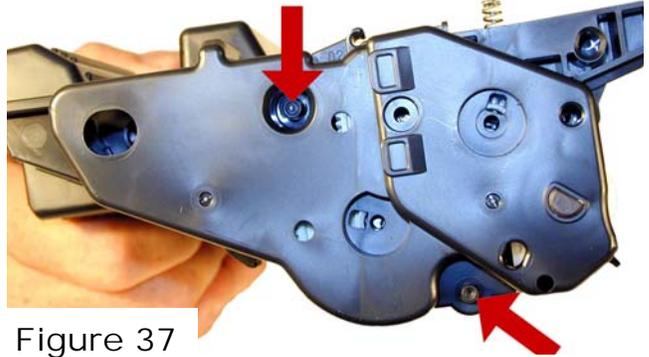
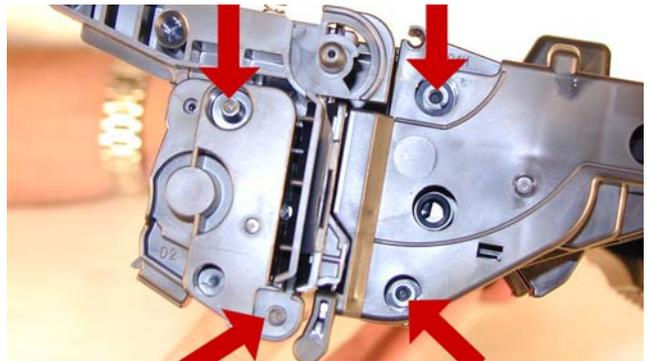

Figure 37
Figure 38
17) On the supply section, the end caps are held in place by a series of plastic rivets. They need to be cut off in order to gain access to the hopper. Only the gear side needs to have the rivets cut. In Figure 38 you see there are more rivets that would need to be removed, and in our preliminary tests, proper re-alignment of the end caps on that side is difficult to do. **Figures 37 & 38.**